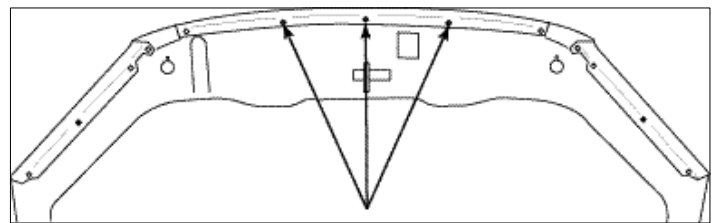

Fig. C1
2. Line up shield with the existing holes in hood. (Fig. C1)